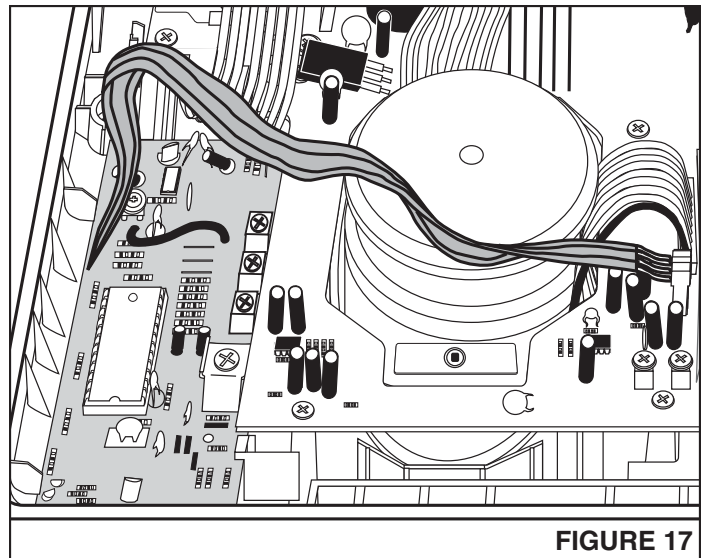

FIGURE 17
3. **Refer to Figure 17.** Locate the chime module mounting bracket.